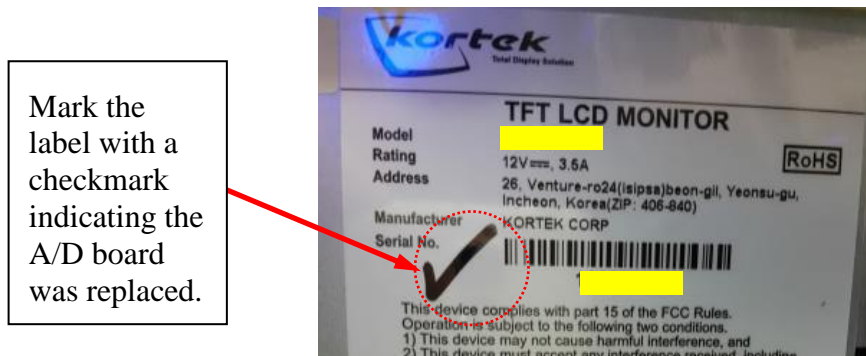

Figure 6.
- 8) Use the black Sharpie marker to mark the manufacturer label with a check mark next to the serial number to indicate the defective A/D board has been replaced. See Figure 6.